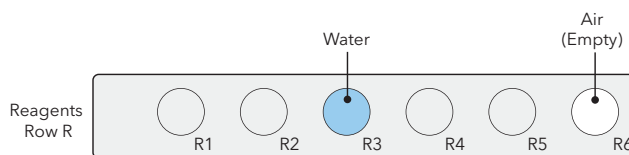

FIGURE 20. cIEF Fractionation Cartridge Post-run cleanup vial placement.
10. Verify the reagent vials are placed as shown in **FIGURE 20**. Check that there is at least 2 mL of water in vial R3.